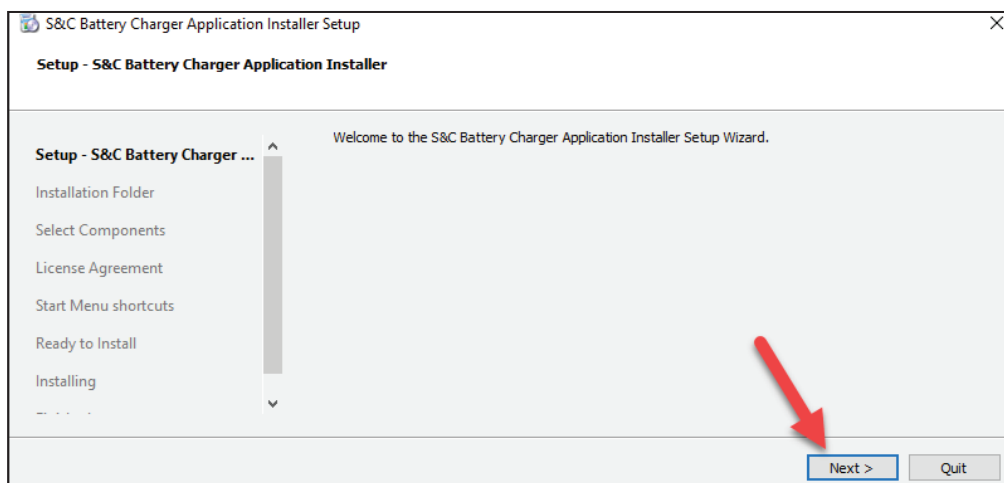

Figure 4. The S&C Battery Charger Application Installer screen.
STEP 2. Double-click on the installer executable (.exe) file. Click on the **Next** button. See Figure 4.